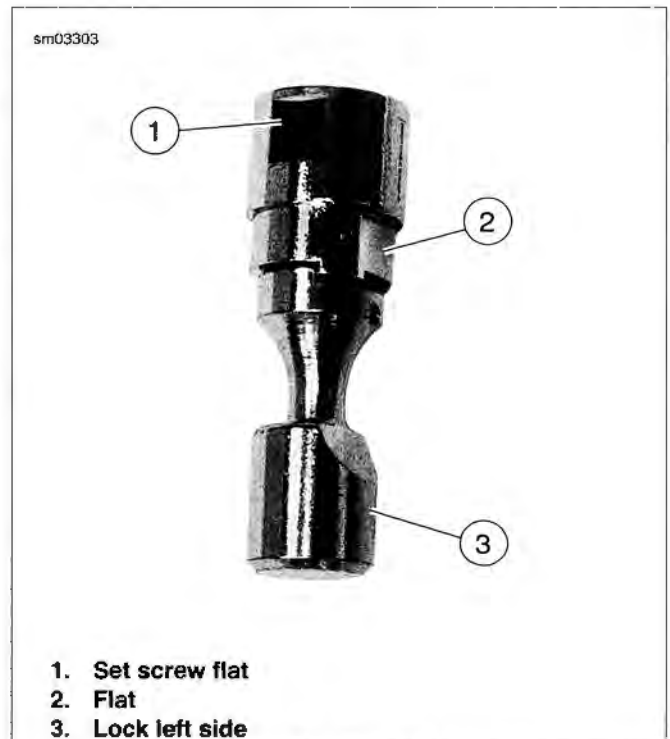

Figure 2-123. Fork Lock
- See Figure 2-123. There is a flat (1) in the bottom of the lock into which the set screw fits. This flat must be at the bottom when the lock is installed.
- When the lock is correctly installed, a forward-facing flat (2) on the lock will fit against a flat inside the external lock boss and the face of the lock will be flush with the face of the external boss.